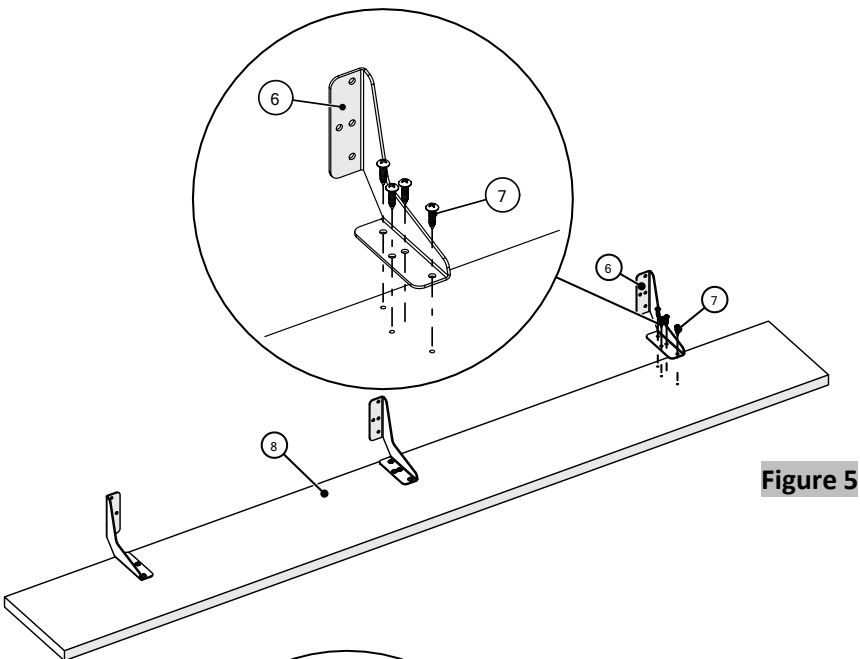

Figure 5
- 6. Position the cantilever bracket over pilot holes of modesty; insert (4) #8 x 5/8" Pan Quadrex drive screws per bracket and tighten, (Figure 5).